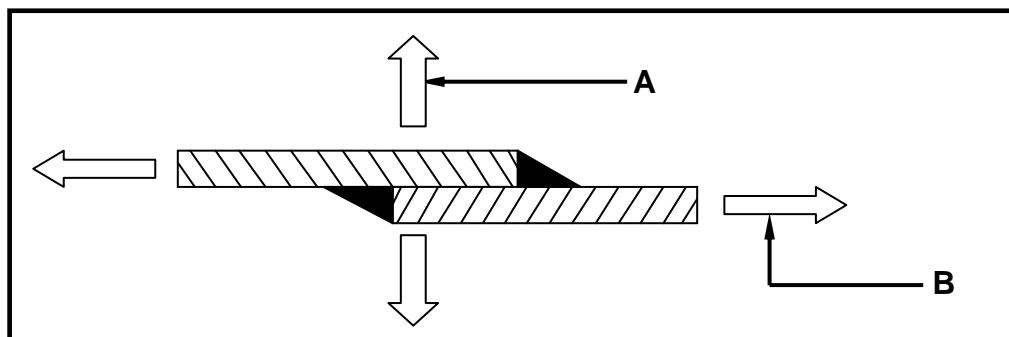

FIGURE 6.10
6.10 FIGURE 6.10 below is a drawing of a soldered joint and the forces that act upon it.
6.10.1 Identify forces **A** and **B** in FIGURE 6.10. (2)